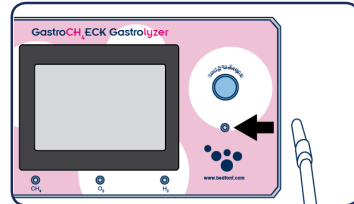

fig.12
2. To perform a bag sample measurement, attach the filled breath bag to the bag sampling inlet provided, via the available end of the desiccant filter (fig. 12)